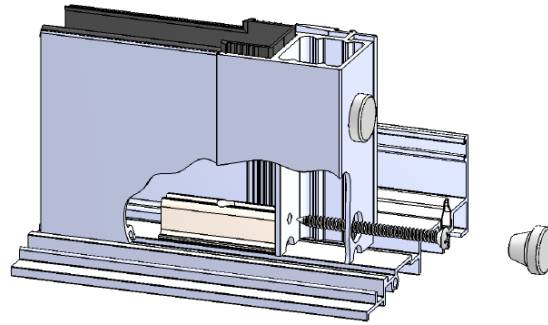

Figure 15:
7. Remove the bottom plug button. Insert one (1) #10 x2-1/2” pan head screw through the fixed interlock stile and into the sill block, as shown in Figure 15.
5. Insert one (1) #10 x2-1/2" pan head screw through the fixed interlock stile and into the sill block (Figure 15).